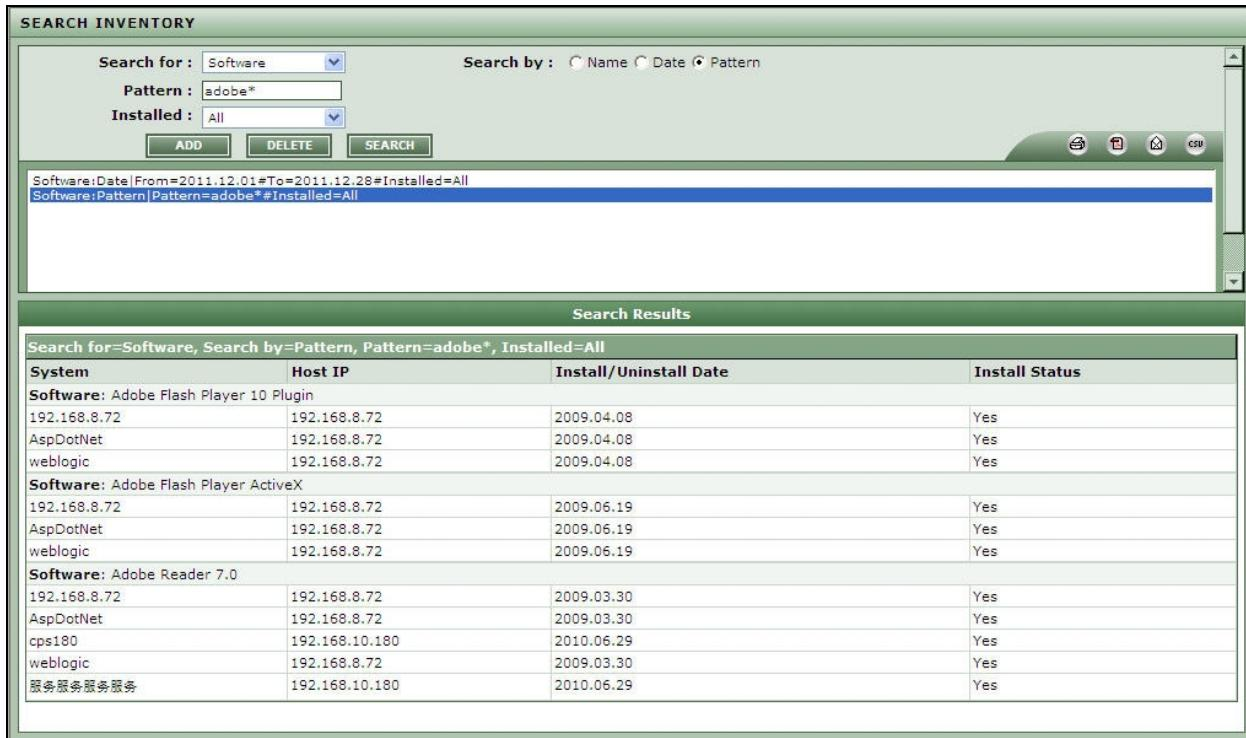

Figure 2.44: Inventory search of a software through pattern wise
4. **Pattern:** Select this option if you want to search for software with names that match a specified pattern as shown in Figure 2.44. Upon selecting this option, you will be required to provide a comma-separated list of *Patterns* to search for. You can either provide the whole/part of the software names in the **Pattern** text box, or use wild card characters to indicate the patterns. For instance, to look for software with names that begin with the strings 'acro' and 'macro', your **Pattern** specification can be: *acro*,macro**. To search for all software, simply enter * in the **Pattern** text box. If you want to view the list of systems on which the software that matches the specified patterns is still available, set the **Installed** flag to **Yes**. This will invoke a **Display Columns** list from which you can select the installation details that you want displayed for the software. To view the list of systems from which the software that matches the configured patterns was uninstalled, set the **Installed** flag to **No**. To view the details of all the software that match the configured patterns, regardless of whether they were installed/uninstalled, set the **Installed** flag to **All**.